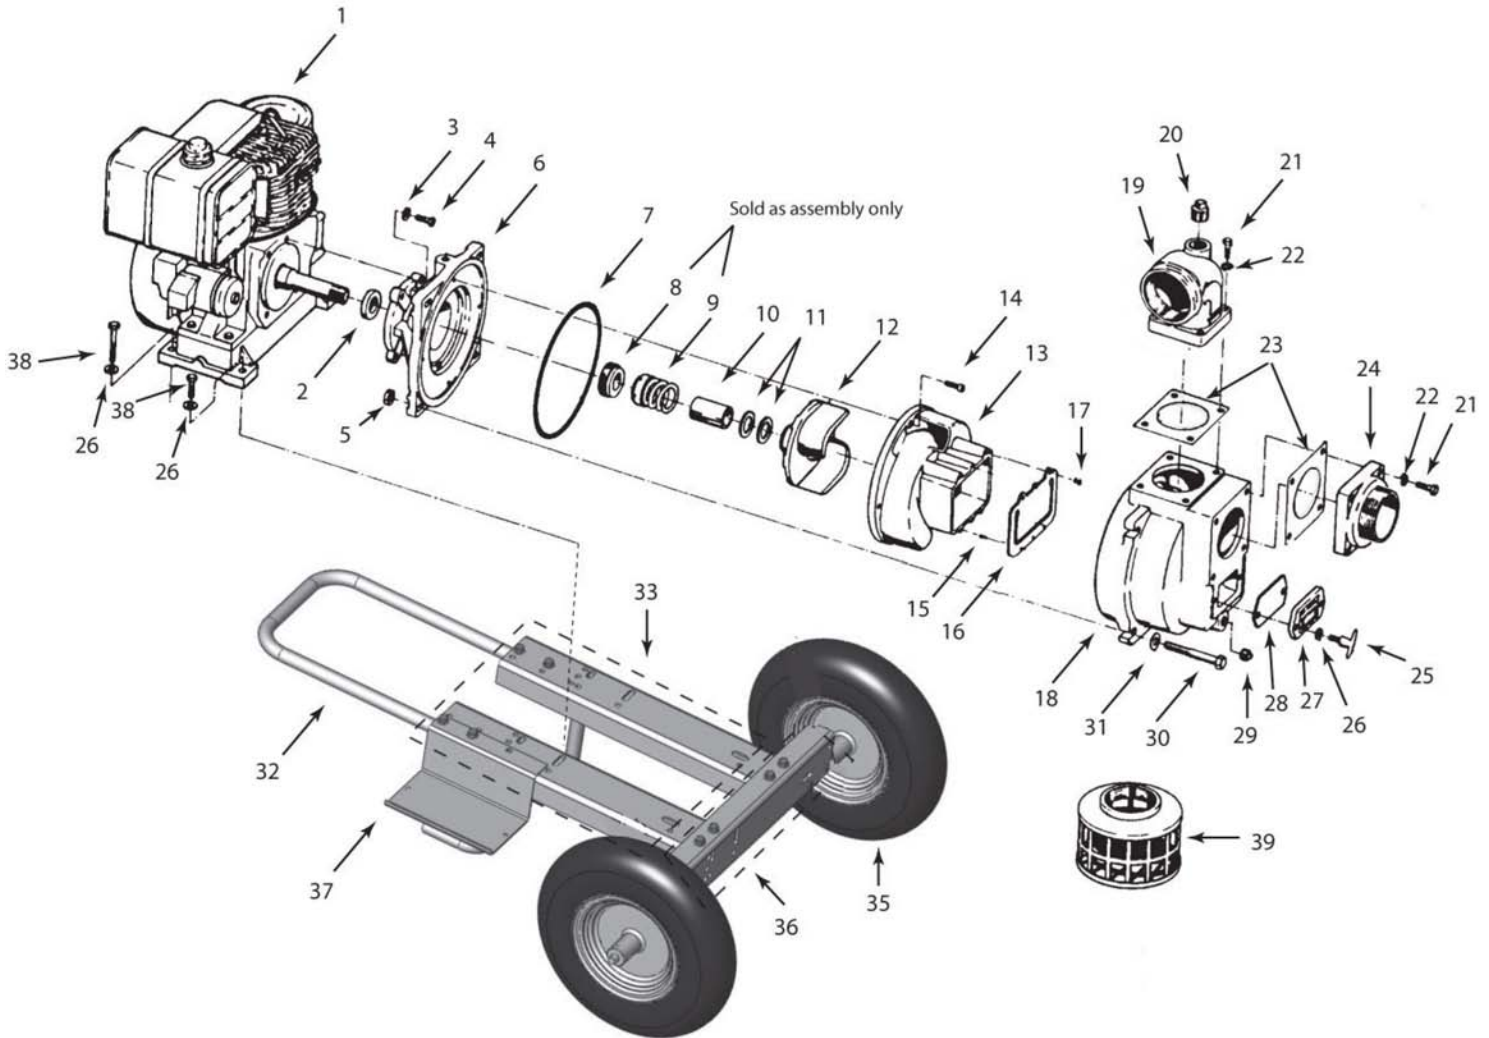

Figure 2 - Repair Parts Illustrations
(Refer to Figure 2)
2. Stand pump carefully on pump end. Reposition handle (Ref. No. 32) (as shown in Figure 2) facing outwards by removing and replacing existing handle fasteners.
**NOTE:** When the clearance between the impeller and the volute/wear plate exceeds 1/16" at the face of the impeller or 1/8" on the outside diameter of the impeller, it may be necessary to take corrective action. The increased clearance can cause lengthened priming times and reduced pumping capacity. If both the priming and capacity of your unit are satisfactory for your application, it is recommended that no corrective maintenance be performed regardless of what clearances on your unit may have developed, since the increased clearances in themselves are not generally harmful to your pump. Normally, new pump clearances can be restored by simply shimming behind the impeller. (Add shim washers, Ref. No. 11). If the impeller is badly worn it is recommended that the impeller be replaced. This is usually all that is required since only on unusually abrasive services does the cast iron wear plate show deterioration. Occasionally a stone or hard object might get caught in the impeller and cause damage to the volute/cut water. In these cases, follow the instructions below for replacement and refer to Figure 2.